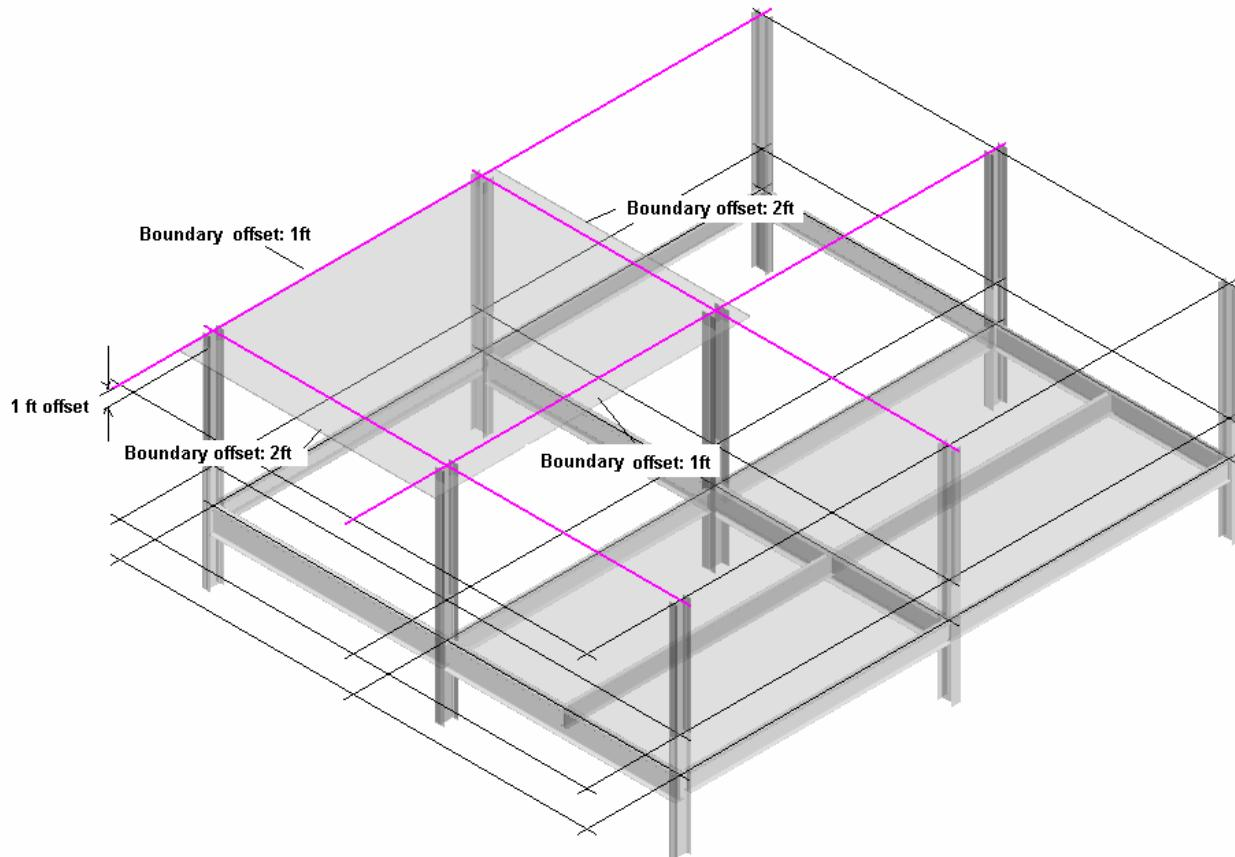

Figure 13 – ISO View of the Roof Deck
- 5 Select the boundaries as shown in Figure 13 to define the edges of the roof deck
Boundaries Offsets: See Figure13